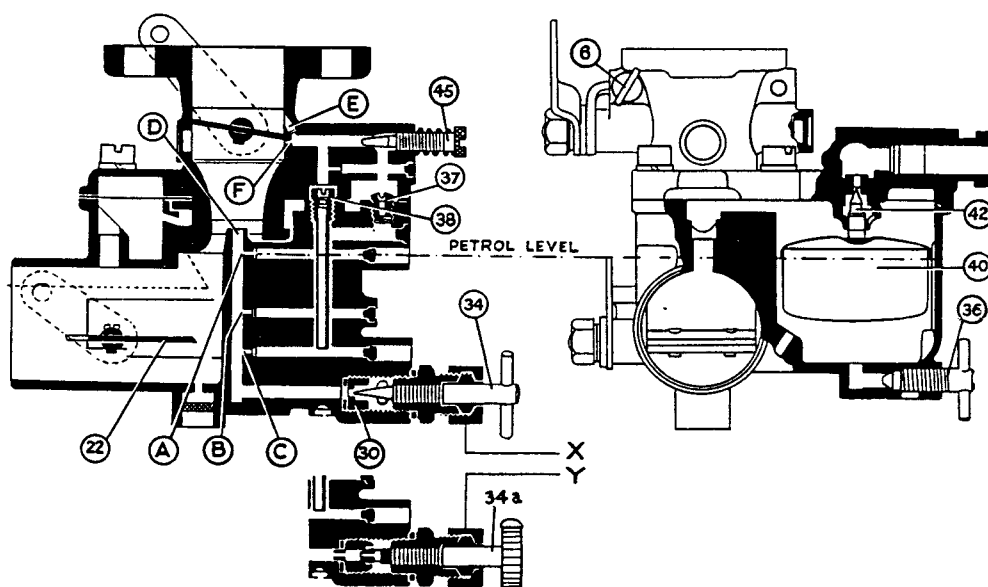

FIG. 18
**General Description. Fig. 18.**
This should be carried out when the engine is hot, the minimum running speed usually being set at 400 — 450 r.p.m. A spring-loaded adjusting screw (6), Fig. 18, is provided close to the throttle lever by means of which the exact throttle opening can be adjusted for idling. It should be turned clockwise to increase the idle speed and vice versa. The slow running mixture screw (45) will provide a richer mixture if turned in a clockwise direction. If, however, there is evidence of rich running, i.e. black smoke from the exhaust or hunting, this screw should be gradually turned in an anti-clockwise direction until the engine runs cleanly and evenly. The usual setting is about one complete turn open from the fully closed position.
## Standard Type Adjustable Main Jet (Fig. 18 detail X).
## Min. Max. Adjustable Main Jet (Fig. 18 detail Y).
Push inter-connection tube (20) into its seating in choke lever and adjust so that with a slight pre-load on the throttle lever (10) tending to keep the throttle in closed position, closing movement of the choke lever (25) will slide tube up rod to "kink" and open throttle just sufficiently to uncover progression orifice (see Fig. 18, item F).